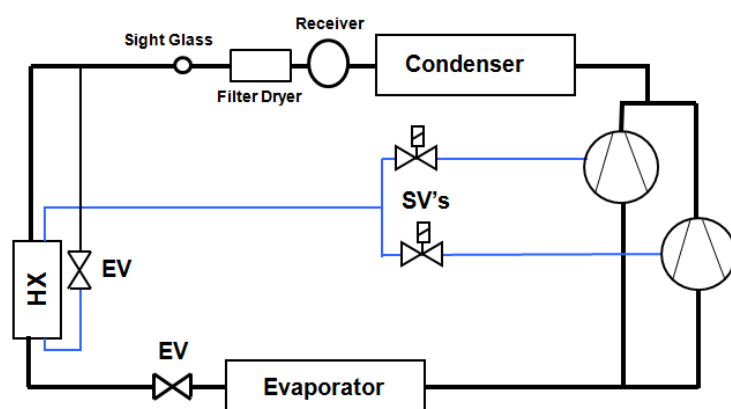

Figure 5: Multiple compressor configuration when one injection expansion valve is sufficient
Vapour injection compressors in parallel configuration can share one economizer (HX) and usually one expansion valve (Figure 5). For higher capacity systems, two injection expansion valves installed in parallel may be needed. Due to the larger capacity range achieved by parallel configuration, an electronic injection expansion valve is preferred to a thermostatic valve.